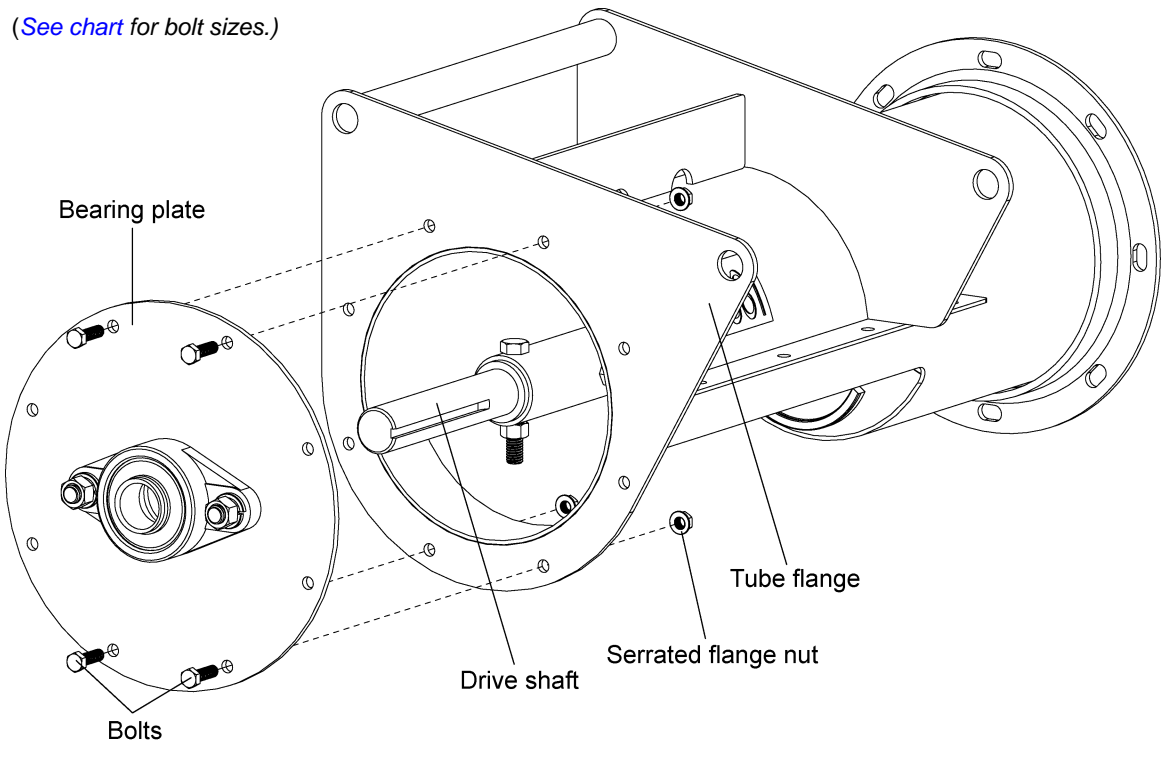

Figure 4D
- 3. Only secure with upper and lower four (4) bolts. (See Figure 4D.) The other four (4) bolts will be installed later with the belt guard mounting brackets.